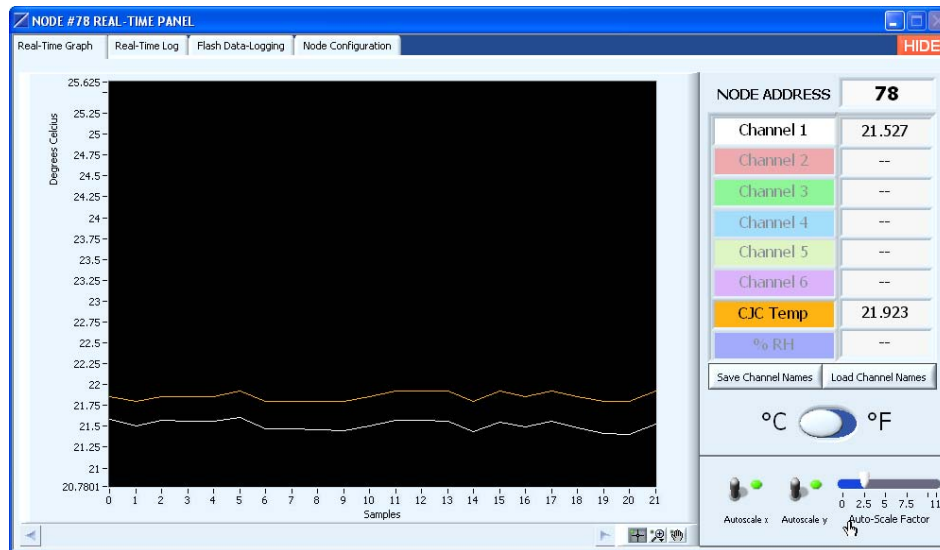

Figure 5
- Click the 78 and the Node #78 Real-Time Panel screen will appear with the Real-Time Graph tab in view. **See Figure 5.**